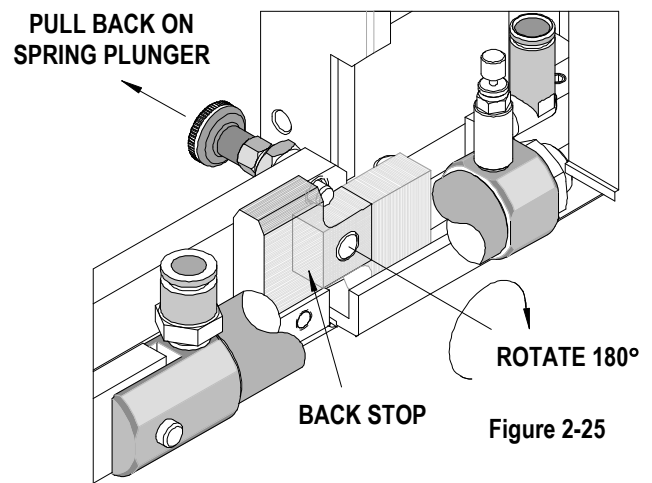

Figure 2-25
- To increase the back stroke for 30.48mm (1.200") spaced products, pull back on the spring plunger (63600-1566) and flip up the back stop counterclockwise. Release the spring plunger. See Figure 2-25.